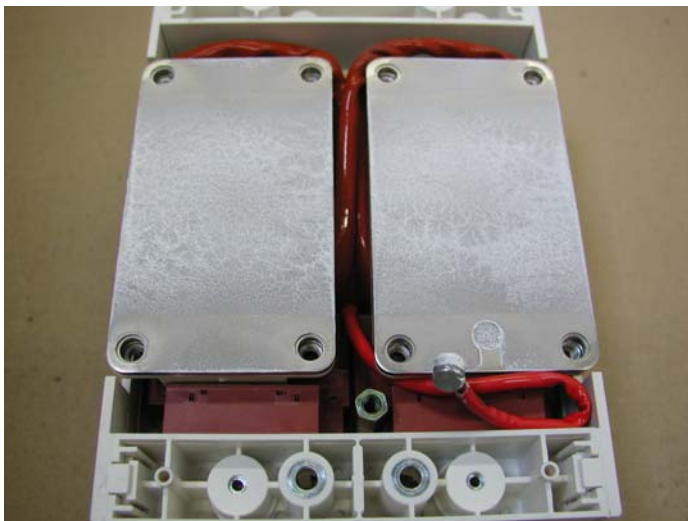

Figure 11
- Print image of the IPM baseplate. (figure 11)